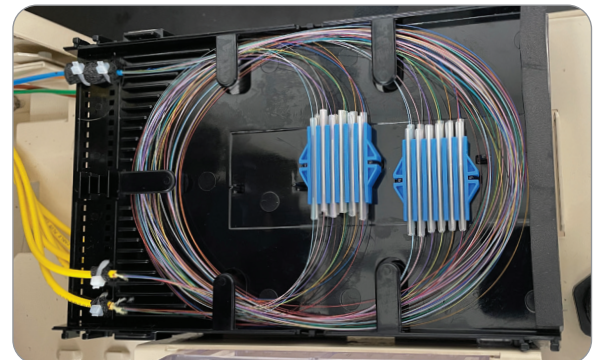

Figure 15
3. Secure the tubes to the trays using foam and tie wraps (Figure 15).